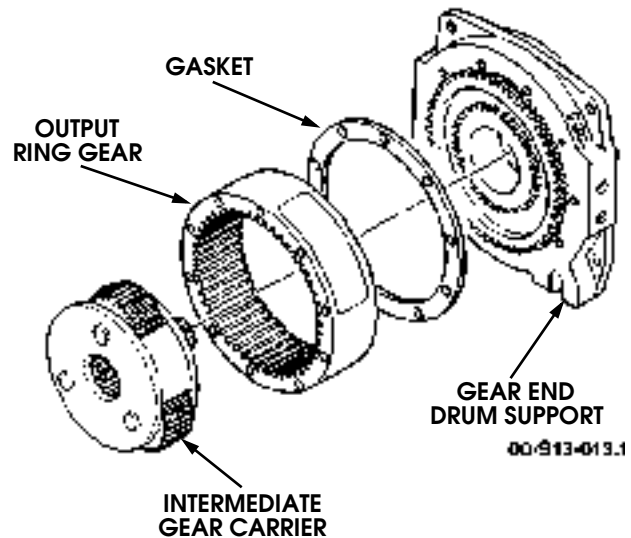

Figure 13-11: Gear Carriers
21. Remove and output gear carrier from output ring gear and gear end drum support (Figure 13-11)